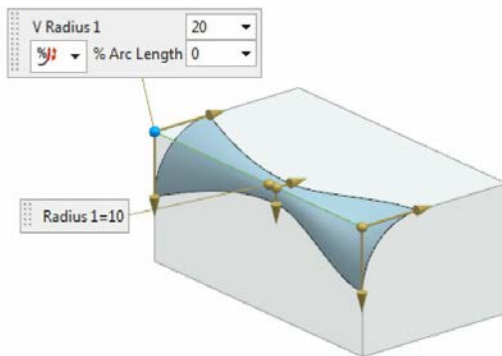

Figure 6-69 The **V Radius 1** and **% Arc length** edit boxes displayed on the model
4. Select a point on the edge and choose the **OK** button; the **Variable Radius** rollout will be modified. Next, click on the specified point on the edge, the **V Radius 1** and **% Arc length** input edit boxes will be displayed on the model, refer to Figure 6-69.